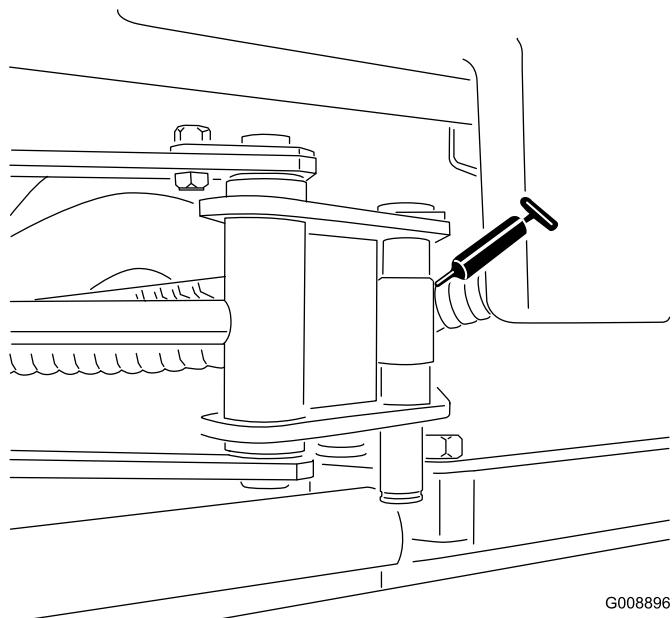

Figure 46
- SideWinder cylinder ends (2; model 03206 only) (Figure 46)